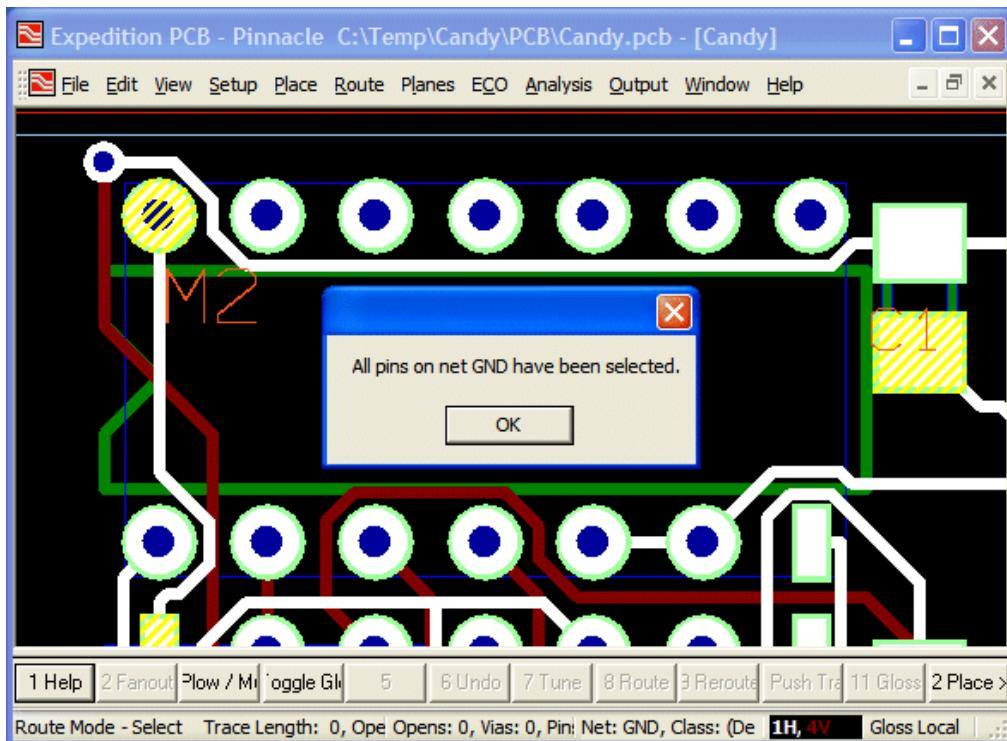
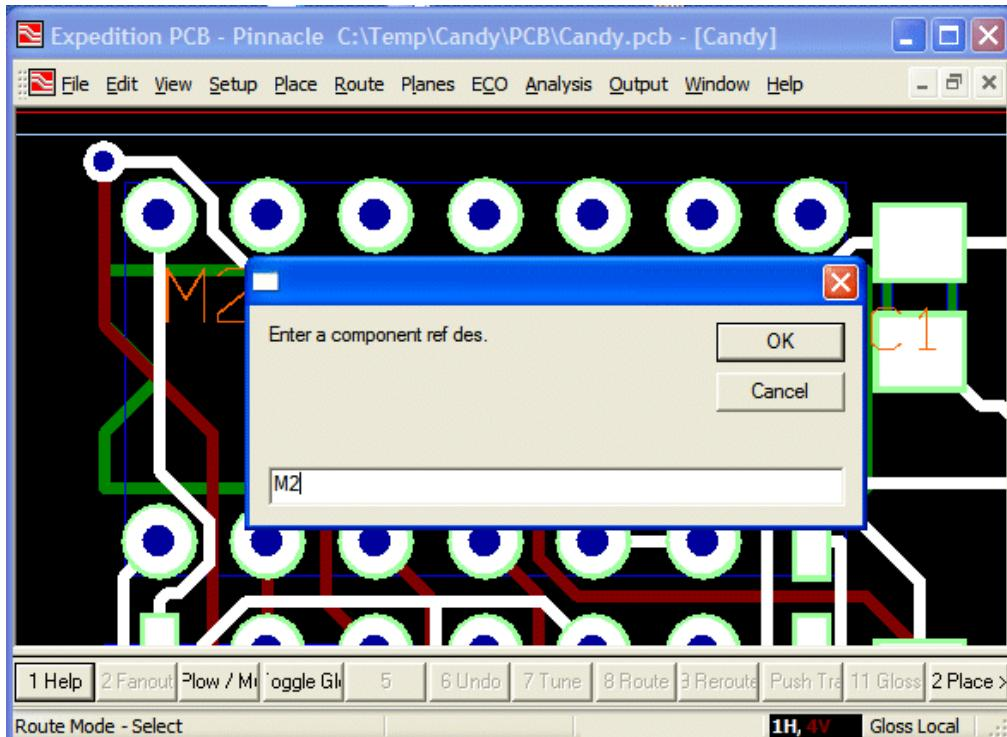

Figure 12-6. Result from Task #2 in the TraversePins.vbs script.
Figure 12-7. Query at start of Task #3 in the TraversePins.vbs script.
- 5) Click the **OK** button and observe the results from **Task #2**; that is, two new pins have been selected and a new *MsgBox()* appears as illustrated in Figure 12-6). Click this **OK** button and then enter the name of the "M2" component into the **Task #3 MsgBox()** (Figure 12-7).